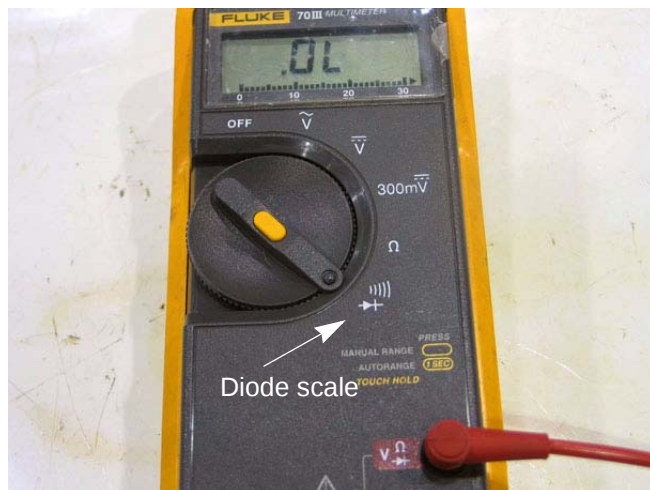

Figure 7.55
2. Set the DVOM to the diode or Ω scale. See Figure 7.55.